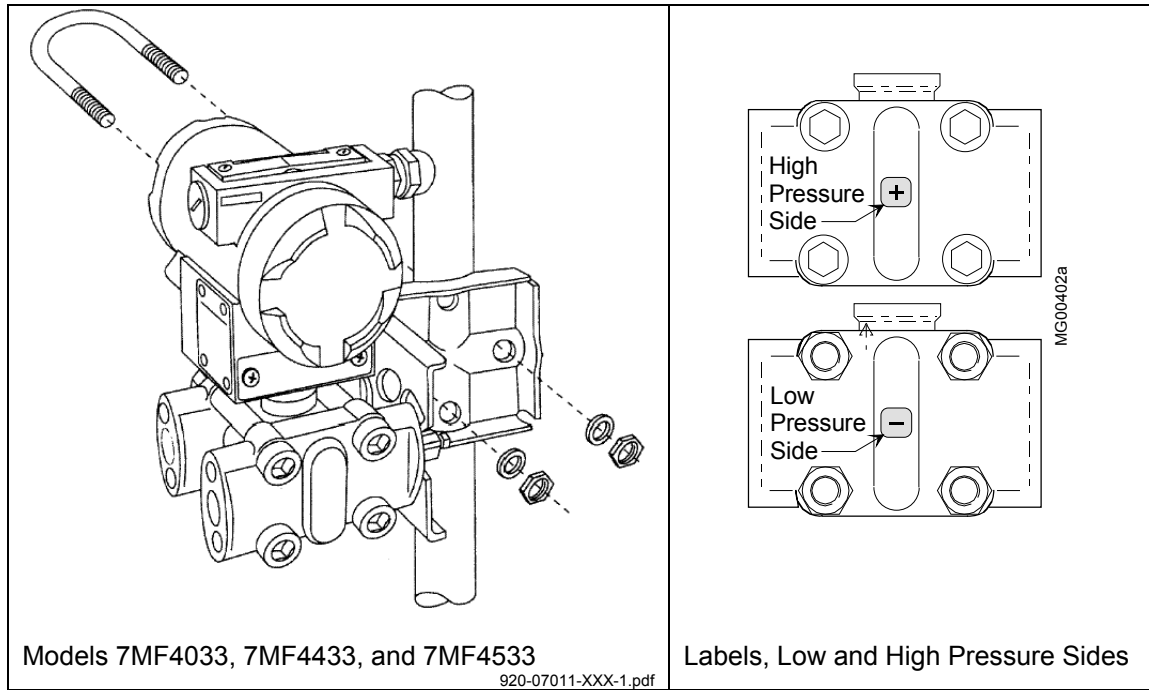

FIGURE 4-11 Pipe Mounting, Differential Construction
- See Figure 4-11 for Absolute Pressure Model 7MF4333, differential construction.
- See Figure 4-11 or 4-12 for Differential Pressure Models 7MF4433 and 7MF4533.
Transmitter process connections are on 2.13-inch (54 mm) centers to allow direct mounting (bolting) to a manifold with the same spacing. Each transmitter process connection (end cap) has two tapped 7/16-20 mounting holes and a 1/4 NPT tapped pressure inlet. High pressure (+) and low pressure (-) sides of the transmitter are marked by labels (see Figure 4-11) and engraved on the capsule between the end caps.